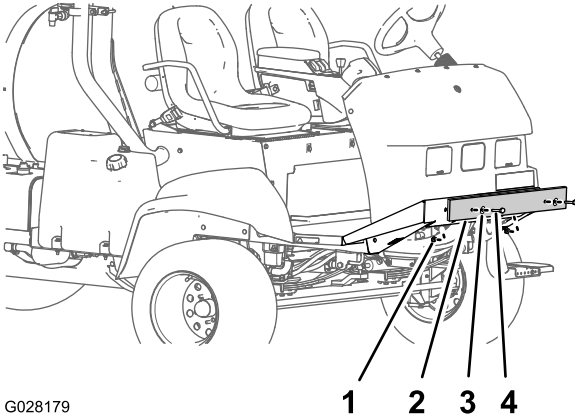

Figure 9
1. Remove the bolts, washers, and nuts that secure the shipping bumper to the front chassis plate (Figure 9).
2. Remove the shipping bumper from the machine (Figure 9).